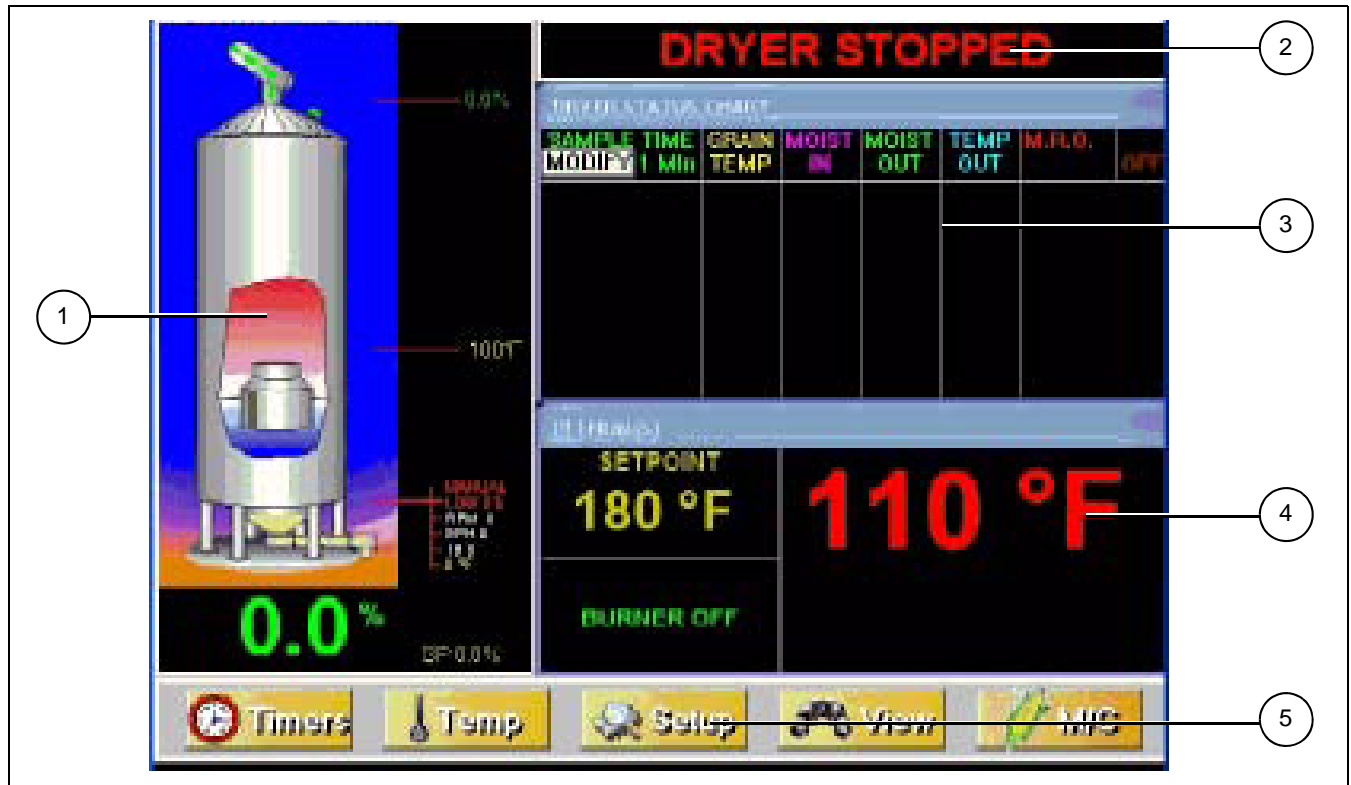

Figure 6B
1. **Table view:** Default operation screen view. (See Figure 6B on Page 32.)
6. Press  then  to return to the operation screen. (See Figure 6B on Page 32.)
4. Press  then  to return to the operation screen. (See Figure 6B on Page 32.)